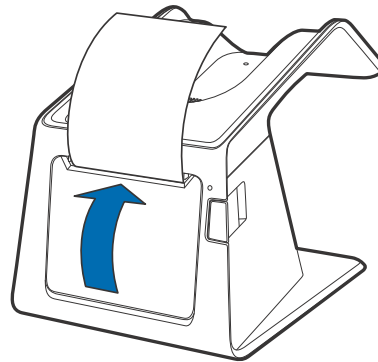

Figure 10 Closing Printer Door
- 8 Close the printer door by swinging upward until the door clicks shut, allowing the printer paper to extend outside the printer door (see Figure 10).